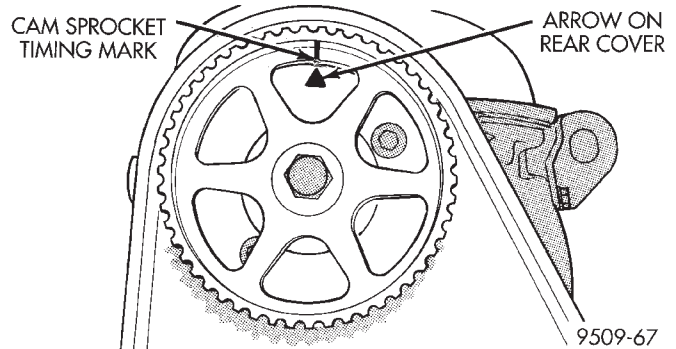

Fig. 49 Camshaft Timing Mark
(5) Set camshaft to TDC by aligning mark on sprocket with the arrow on the rear of timing belt cover (Fig. 49).